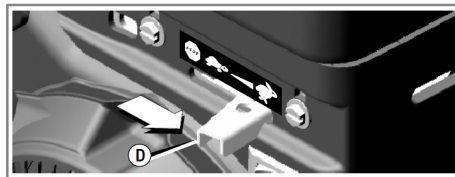

Figure 11
5. Set the slide switch of the motor (Figure 11) in the highest position.
3. Set the slide switch of the motor (Figure 11) in the lowest position.